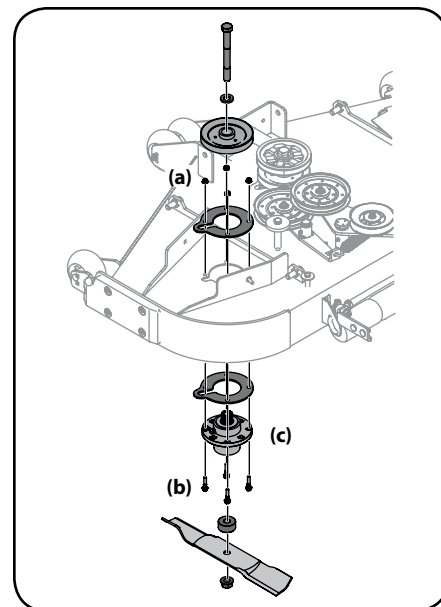

Figure 4-19
6. Using a 3/16" wrench or socket ratchet remove the flange lock nuts, and the hex flange bolts. Remove the spindle assembly. See Figure 4-19.